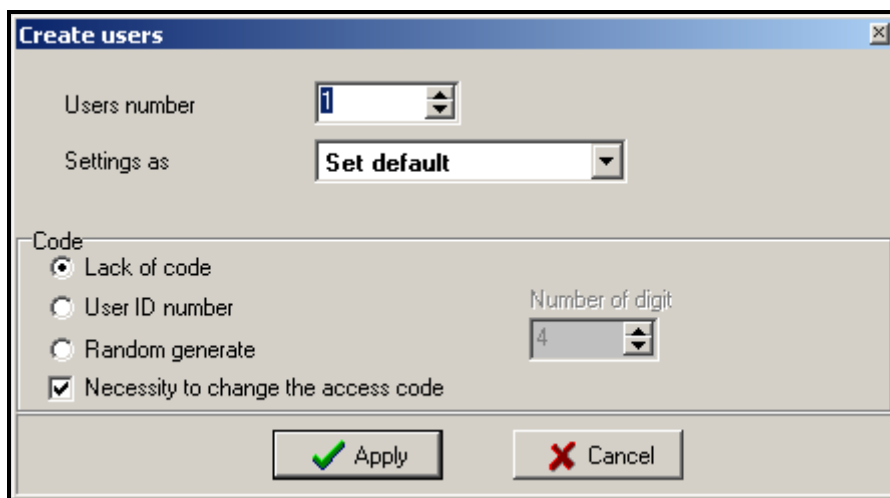

Fig. 24. Window for adding new users.
2. Click with your mouse on the button designated ADD USER. The CREATE USERS window will be displayed (see Fig. 24).
7. Having defined settings of the group, you can assign users to it. The users created earlier can be assigned to the group, e.g. by the "drag and drop" method. The newly created users will be assigned to a selected group, if exactly that group is selected in the SETTINGS AS field of the CREATE USERS window (see ADDING NEW USERS BY MEANS OF ACCO-SOFT-LT PROGRAM and Fig. 24).